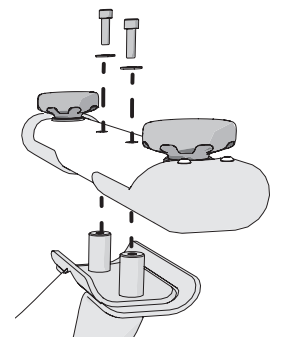

Figure 2
2. Attach the rear stabilizer to the frame using two bolts 1 and two washers 2 (Figure 2). Using a hex key 11, tighten to 15.6 ft-lb (21.2 N-m).